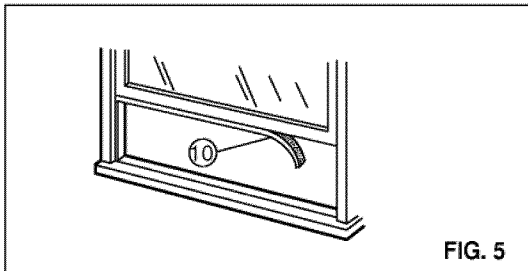

FIG. 5
- 3** Cut the FOAM-PE to fit the underside of the window sash. Peel off the backing and attach the seal as shown in Fig. 5.